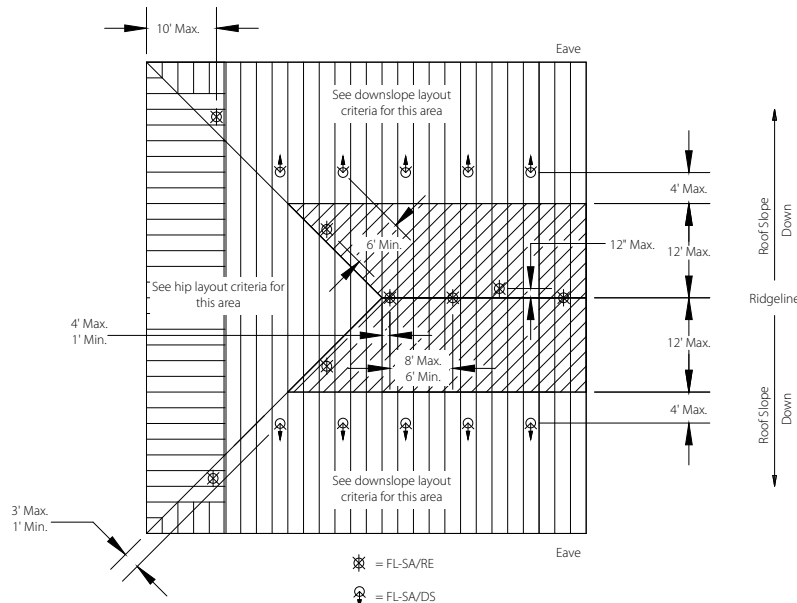
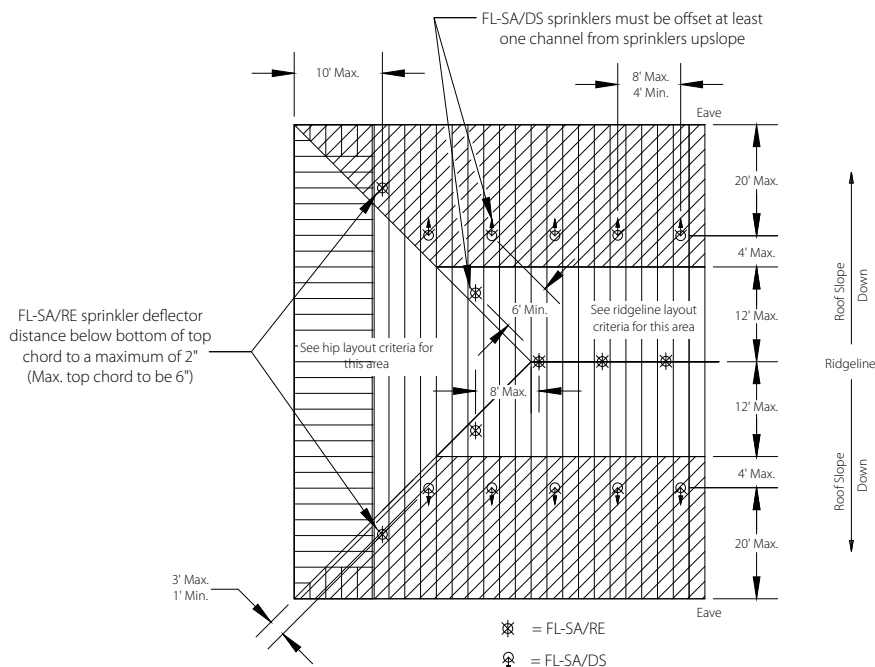

FIGURE 6: RIDGELINE LAYOUT CRITERIA
FIGURE 7: DOWNSLOPE LAYOUT CRITERIA
- This approach utilizes the FL-SA/RE sprinklers at the Ridgeline and downslope covering to the eave. (See FIGURE 6 for dimensional limitations)
- The maximum span of this approach is 72' or a half span of 36' as measured horizontally. (See FIGURE 6 and FIGURE 7 for dimensional limitations)